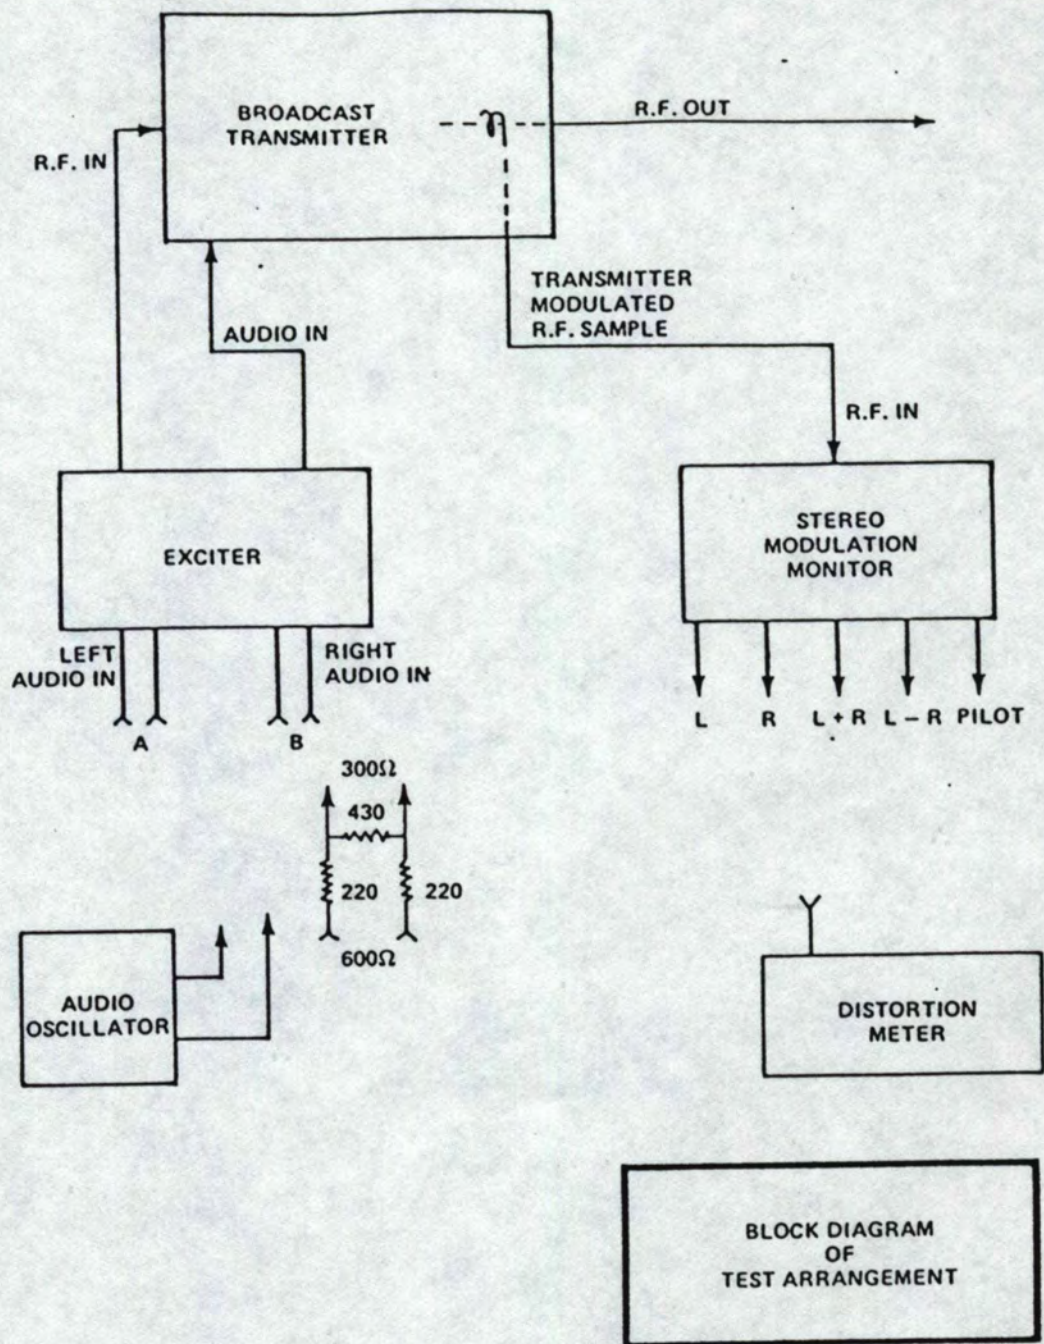

Figure 2.
Referring to Figure 2, the measurement of main (L+R) modulation capability is made by paralleling the left (A) and right (B) audio inputs to the stereo Exciter (phased for L+R modulation) and connecting the audio oscillator through the pad to the junction. The main (L+R) modulation can be read directly on the Modulation Monitor by selecting "L+R" for the indication on the left hand meter (see Figure 2). The level of the audio oscillator can be increased until at least 85% modulation is read on the Monitor. The frequency of the oscillator can be varied over the range of 50 to 5000 Hz while observing the level on the Modulation Monitor for the required modulation level.